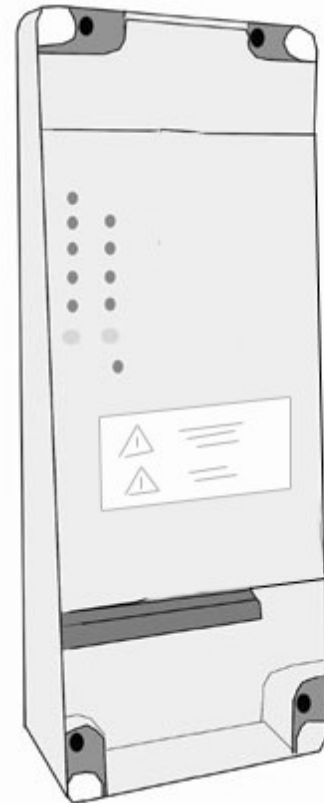

Fig 1
2. Level your box and mark your mounting holes. The holes are located in four corners of the control box (fig 1).